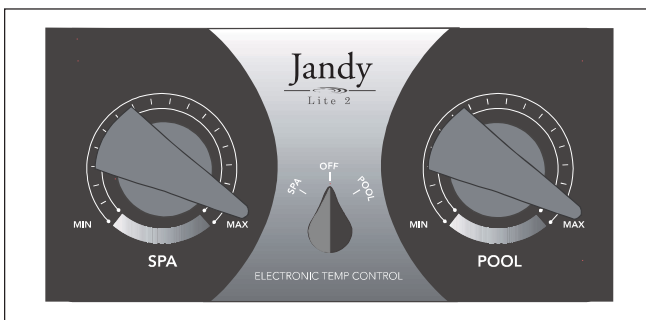

Figure 17. Temperature controls.
1. Set the control panel rotary switch to the OFF position (see Figure 17).
2. Set the rotary switch on the temperature control panel (see Figure 17) to OFF.
The temperature control (see Figure 17) is calibrated at the factory and covers a range from approximately 70°F to 104°F (21°C to 40°C). Use an accurate pool thermometer to determine the best water temperature for your uses.
The Lite 2 Low NOx heater has dual temperature controls, which allows two different temperature settings, selected by the rotary switch in the middle of the panel. One control can be set for normal use and the other for standby; or one can be set for pool and the other for a spa. Placing the rotary switch in the middle turns off the heater (see Figure 17).